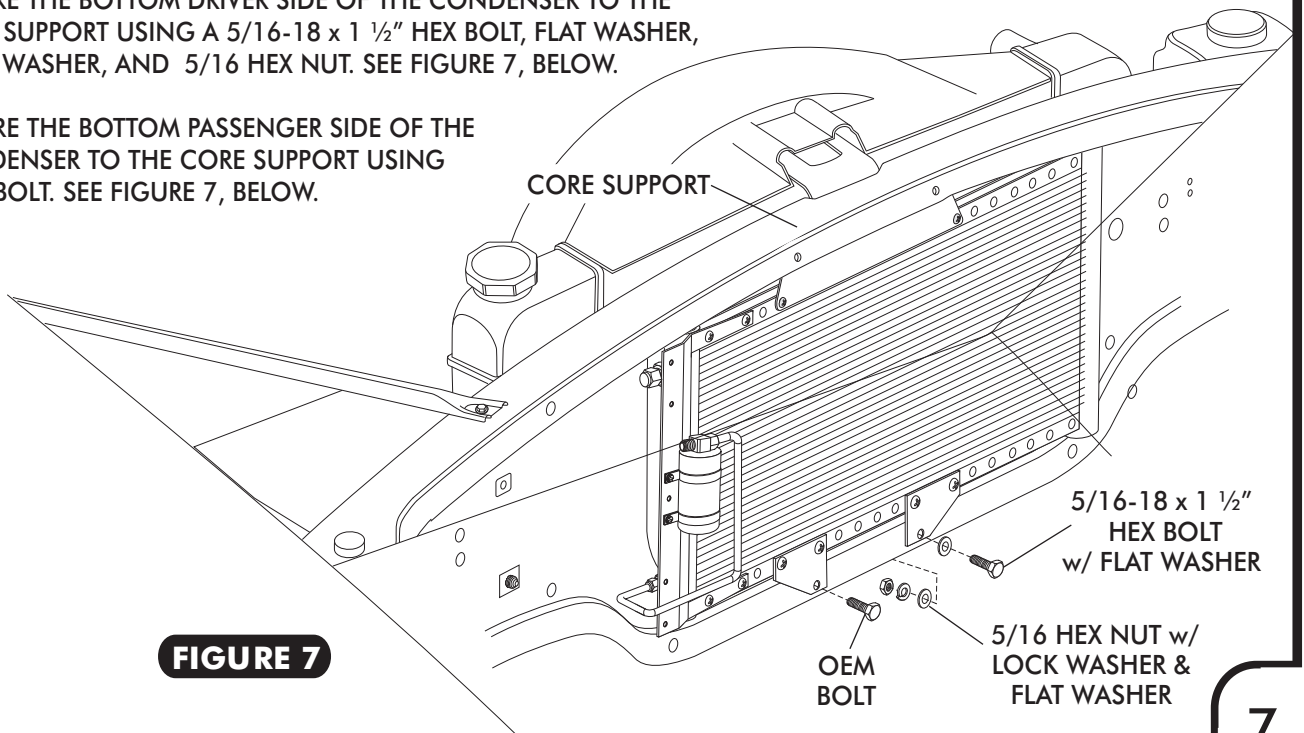

FIGURE 7
- SECURE THE BOTTOM DRIVER SIDE OF THE CONDENSER TO THE CORE SUPPORT USING A 5/16-18 x 1 1/2" HEX BOLT, FLAT WASHER, LOCK WASHER, AND 5/16 HEX NUT. SEE FIGURE 7, BELOW.
- SECURE THE BOTTOM PASSENGER SIDE OF THE CONDENSER TO THE CORE SUPPORT USING OEM BOLT. SEE FIGURE 7, BELOW.